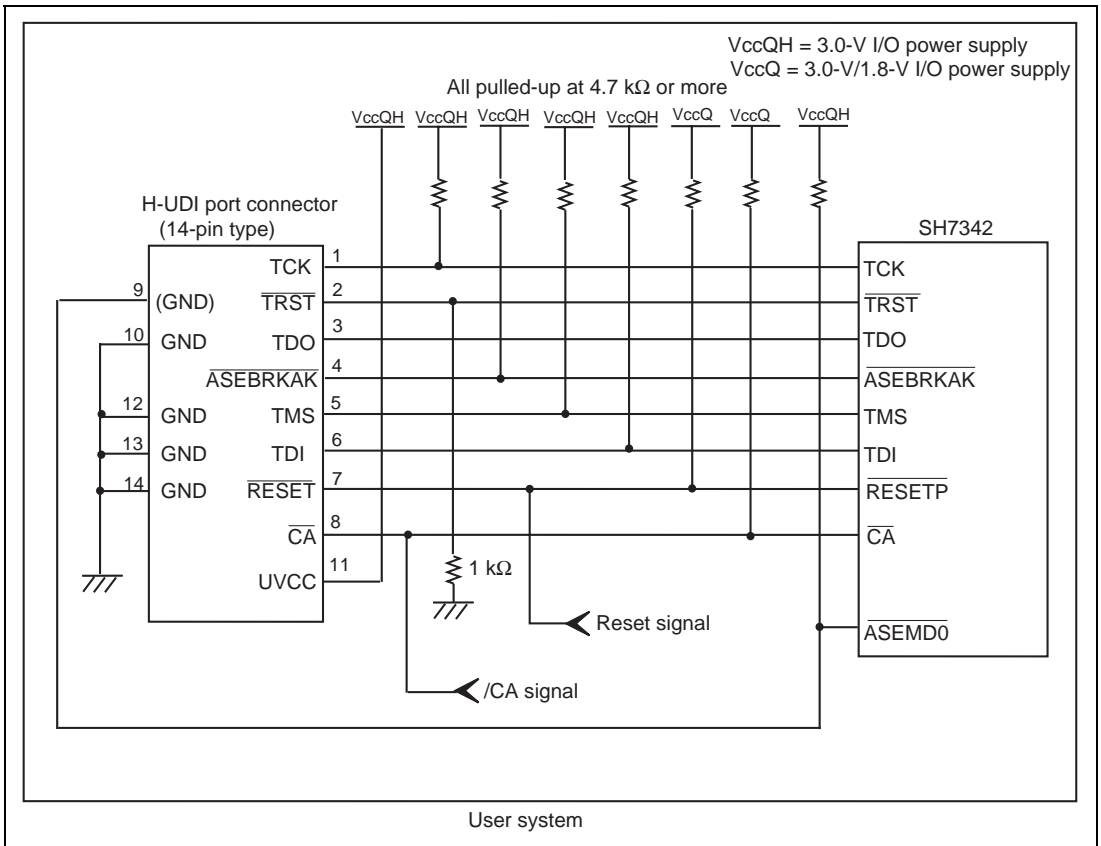

Figure 1.4 Recommended Circuit for Connection between the H-UDI Port Connector and MPU when the Emulator is in Use (14-Pin Type UVCC Connected)
Figure 1.4 shows a recommended circuit for connection between the H-UDI and AUD port connectors (14 pins) and the MPU when the emulator is in use.
- (1) When the emulator is used: /ASEMD0 = 0
- (2) When the emulator is not used: /ASEMD0 = 1Figure 1.4 shows an example of a circuit that allow the /ASEMD0 pin to be GND (0) whenever the emulator is connected by using the user system interface cable. When the /ASEMD0 pin is changed by switches, etc., ground pin 9. Do not connect this pin to the /ASEMD0 pin.
8. Since the H-UDI and the AUD of the MPU operate with the VccQH, supply only the VccQH to the UVCC pin. Make the emulator's switch settings so that the VccQH will be supplied (SW2 = 1 and SW3 = 1) (as shown in figure 1.4).
When the circuit is connected as shown in figure 1.4, the switches of the emulator are set as SW2 = 1 and SW3 = 1. For details, refer to section 3.8, Setting the DIP Switches, in the SuperH™ Family E10A-USB Emulator User's Manual.